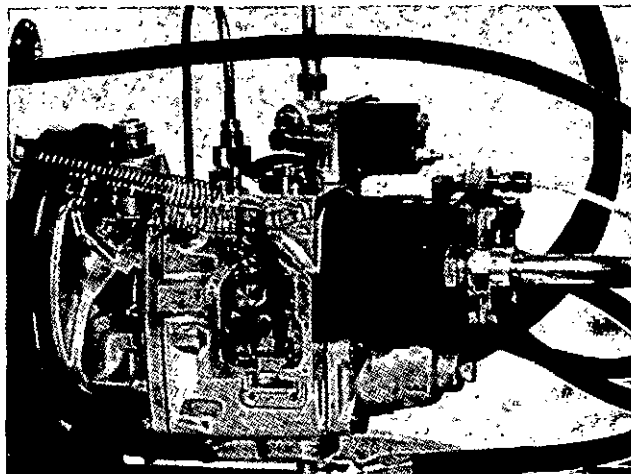

Fig. 10-69, (F5172). Check the "weep" hole for fuel leakage.
2. Put a small amount of light cup grease over the vent or "weep" hole. This hole is near the seal bore of the main shaft in the fuel pump cover, Fig. 10-69.